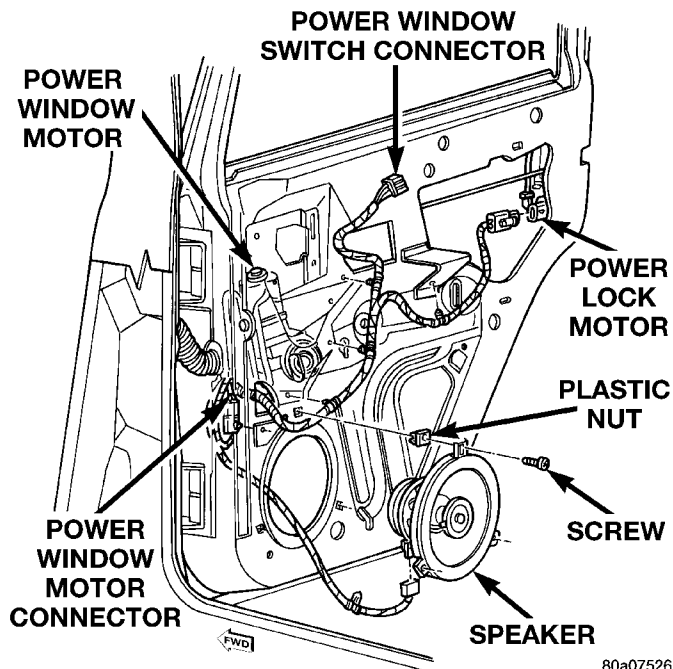

Fig. 14 Rear Door Speaker Remove/Install
(6) Pull the rear door trim panel away from the inner door panel far enough to access and unplug the wire harness connector from the power window switch.
(7) Remove the three screws that secure the speaker to the lower front corner of the inner door panel (Fig. 14).
(8) Pull the speaker away from the inner door panel far enough to access and unplug the speaker wire harness connector.
(9) Remove the speaker from the door.
(10) Reverse the removal procedures to install. Tighten the hardware as follows: